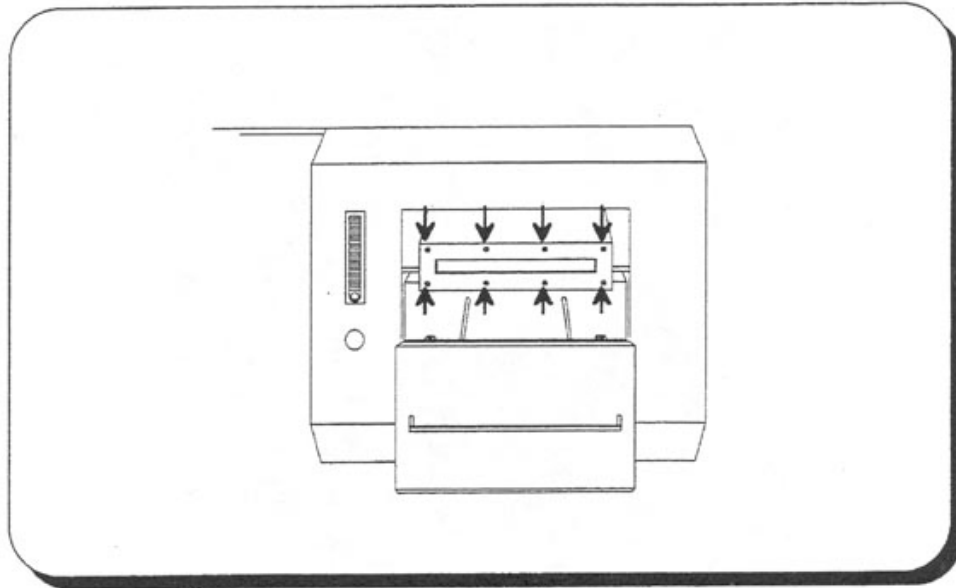

Figure 6-3. Front Flange Screw Locations
4. Carefully remove the eight screws, which hold the front oven flange in place. Put the screws in a safe place (see **Figure 6-3**).